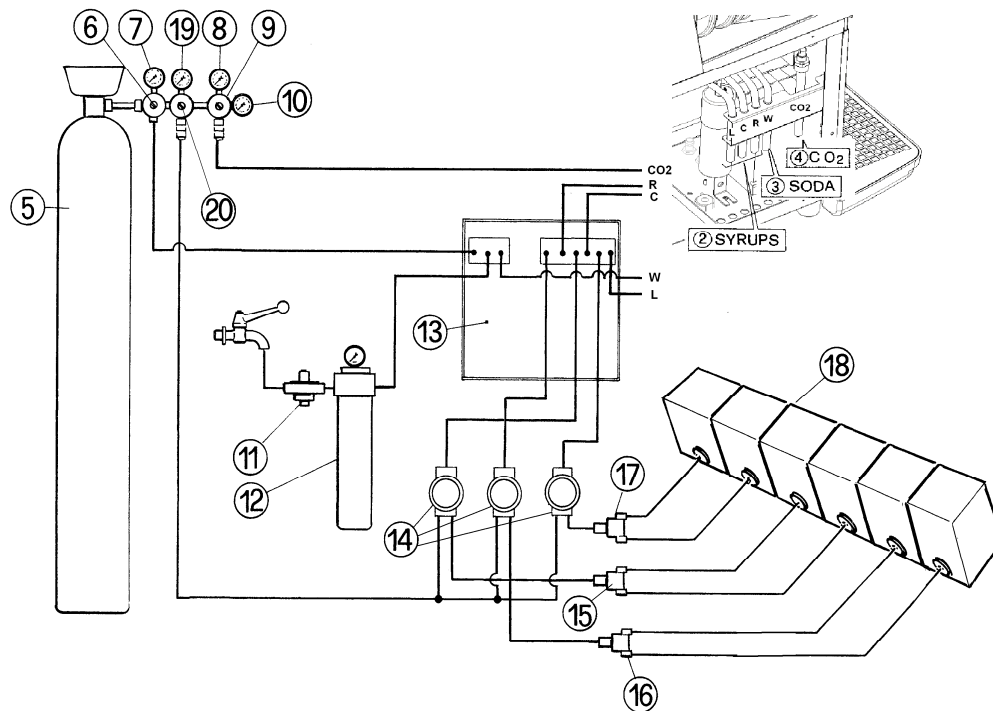

Fig. 6
- Remove the superior flange C1 as indicated by the arrow in the fig.6;